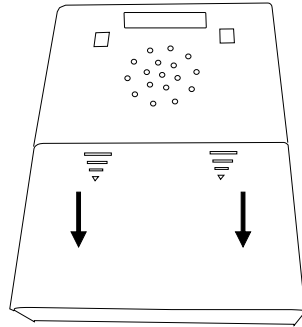

Figure 5: Battery compartment of the
- a) At the rear side there is a battery compartment the cover of which can carefully be pushed downwards so that the compartment opens (fig. 5).